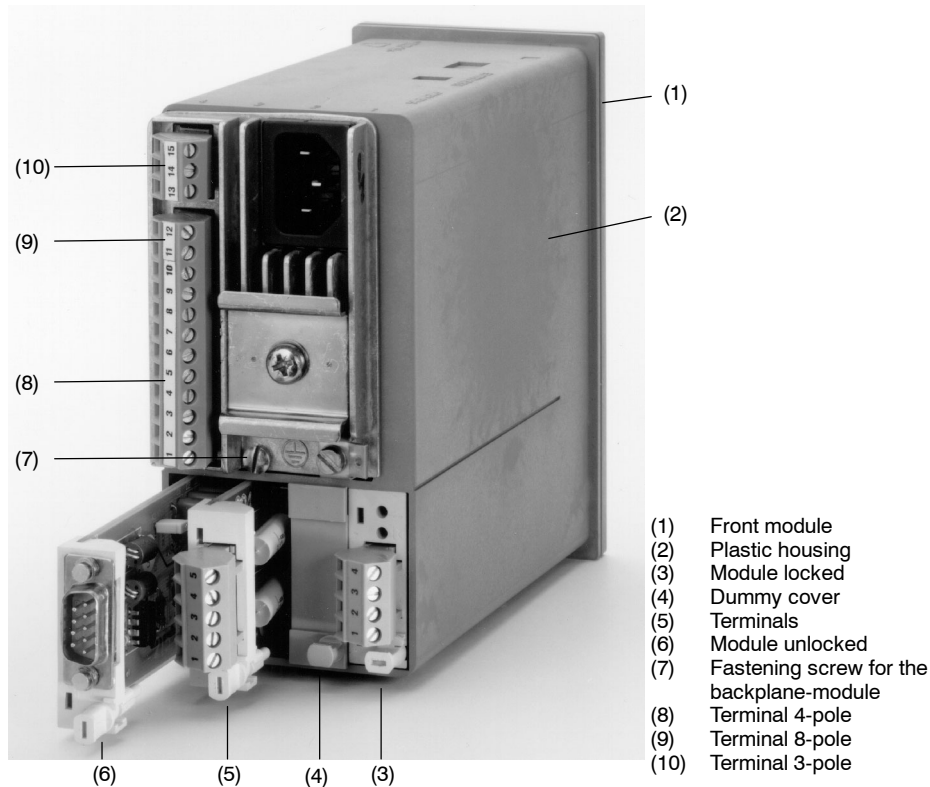

Figure 8-2 Controller rear view
- Release the lock and remove the options module (see (6) figure 8-2).
- Loosen the fastening screw of the backplane module (see (2) fig. 8-2) and pull out the module.